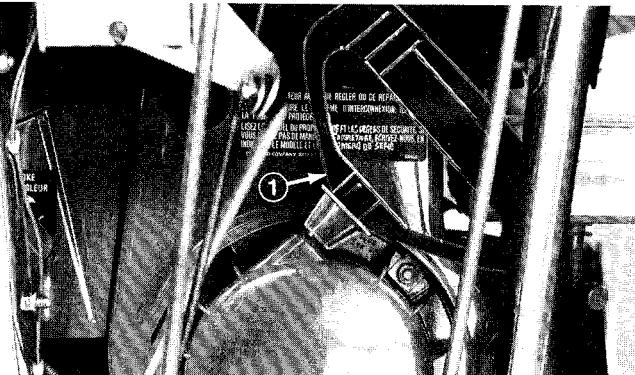

Figure 22
- Grasp recoil starter handle (Fig. 22) and pull it out slowly until positive engagement results; then pull vigorously to start the engine. Keep firm grip on starter handle and return the rope slowly.